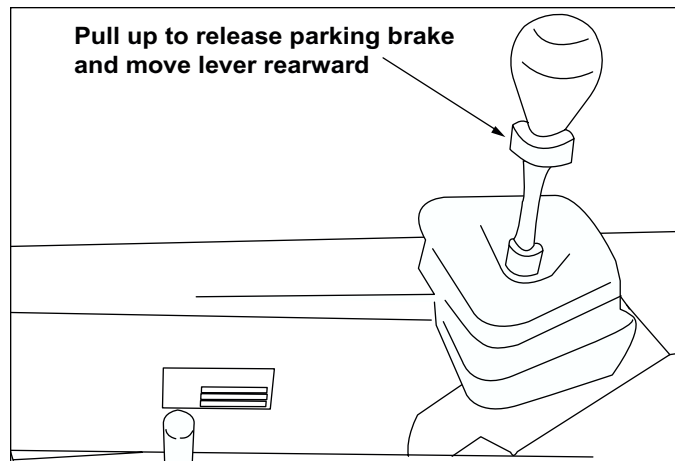

Figure 3-24. Releasing the Parking Brake for Towing
3. See Figure 3-24. Release the parking brake.